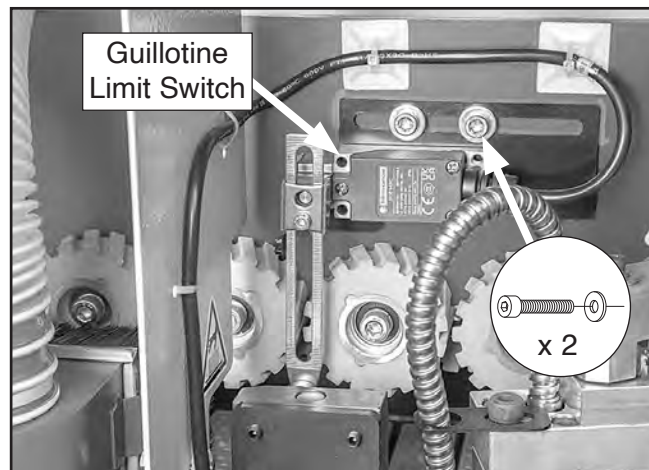

Figure 130. Location of guillotine limit switch and adjustment screws.
2. Loosen (2) adjustment screws shown in **Figure 130**.